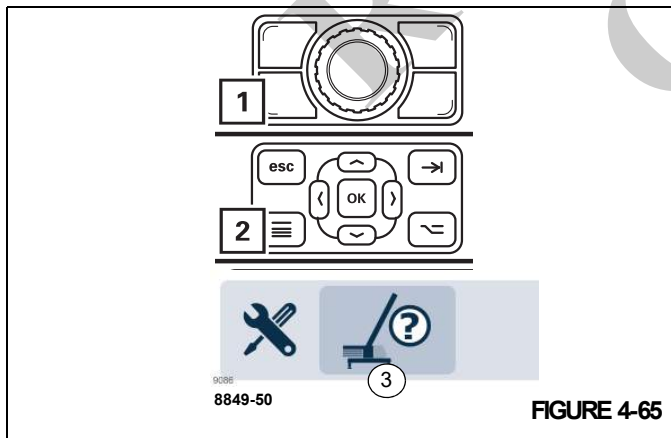

FIGURE 4-65
If you need to correct values, press the button (1), (Figure 4-65) or (2) and open the Enter rigging mode(3) menu.